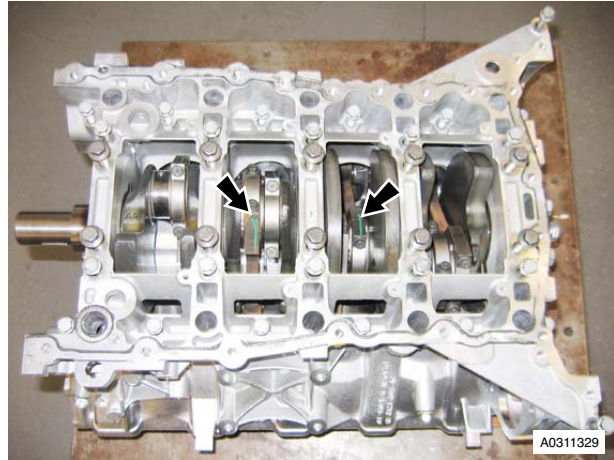

Figure 14
26. Mark bearing caps and connecting rods for correct installation (see Figure 14).